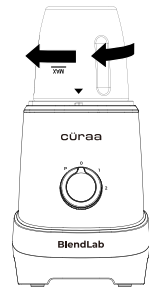

Fig. 3
- Push down the Jar and turn it clockwise to lock into the motor unit (Fig. 3).